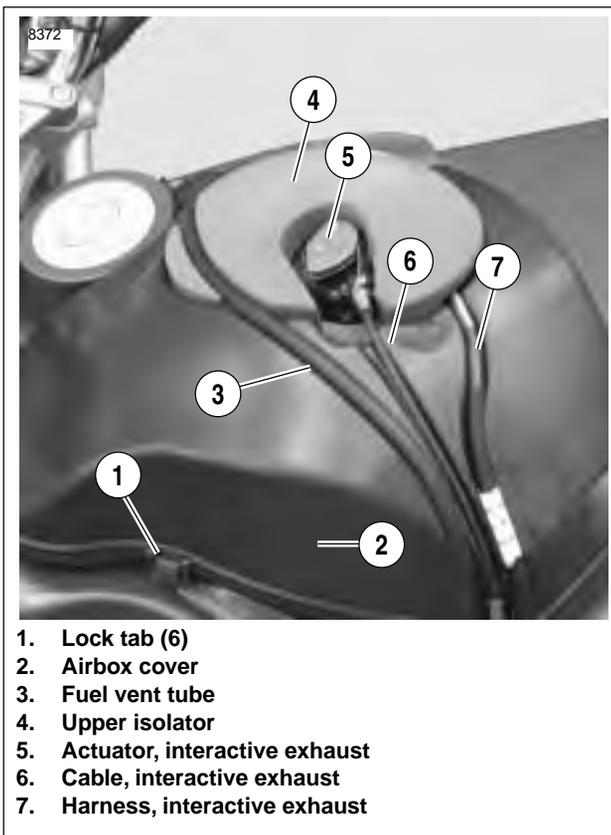

Figure 7-21. Airbox Cover (XB12R Only)
6. See Figure 7-21. Remove fuel vent tube (3) from fuel cell vent and groove on top of airbox cover (2).
7. Move upper isolator (4) out of the way.
8. Disconnect harness connector [161B] from actuator (5).
9. Add free play to interactive exhaust cable (6), loosen jam nut and remove cable from bracket on actuator (5).